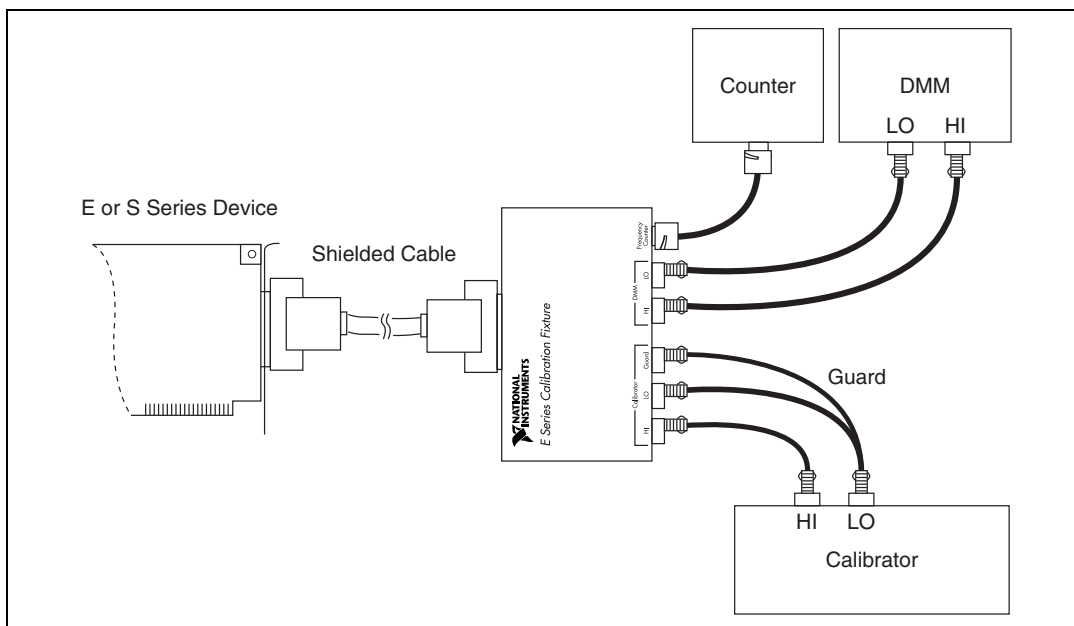

Figure 1. Calibration Fixture Connections for a Calibrator without a Guard Terminal
2. Using standard banana plugs, connect the HI and LO outputs from the calibrator to the calibrator inputs of the calibration fixture. Refer to Figures 1 and 2 to see how to connect the hardware components of the calibration system.